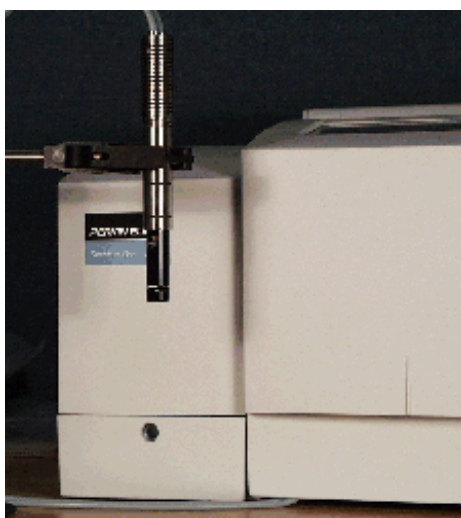

Figure 3 Probe in the vertical position with the tip downwards
- Results will be improved by clamping and leaving the probe in a vertical position (tip downwards), as shown in Figure 3.